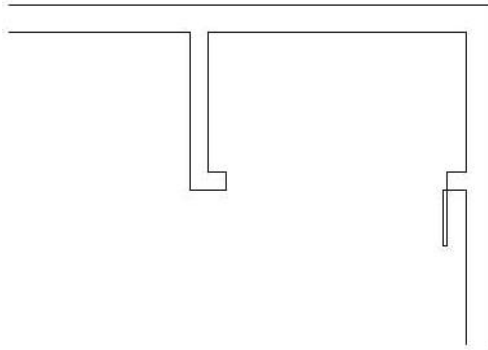

FIGURE 4.73: The first closet door panel is drawn.
6. Type `-1,-12` (`-25,-305`) to create a rectangle 1" (25 mm) wide and 12" (305 mm) long oriented toward the bottom of the cabin, as shown in Figure 4.73.